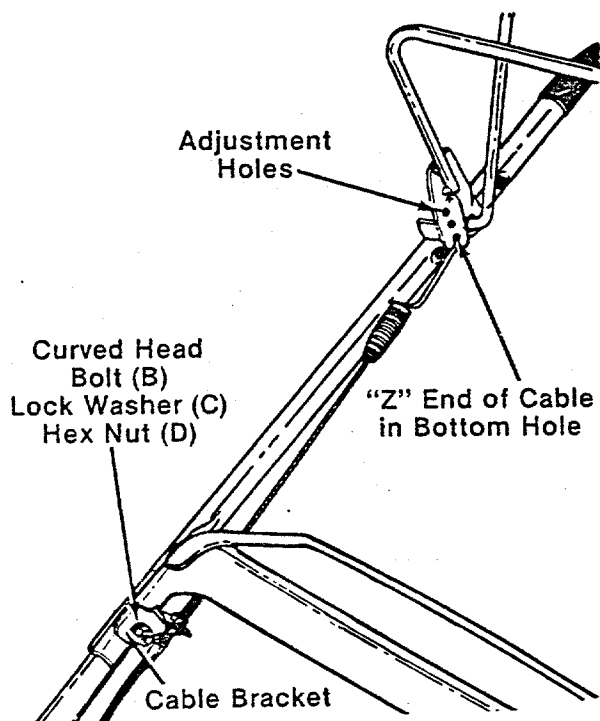

FIGURE 5.
6. Route the clutch cable under the lower handle. Hook the "Z" end of the clutch cable into the bottom adjustment hole in the clutch control handle. See figure 5.
7. Place curved head bolt through right side of upper and lower handles and handle panel. Place the clutch cable bracket on the curved head bolt. See figure 5. Secure with lock washer (C) and hex nut (D).